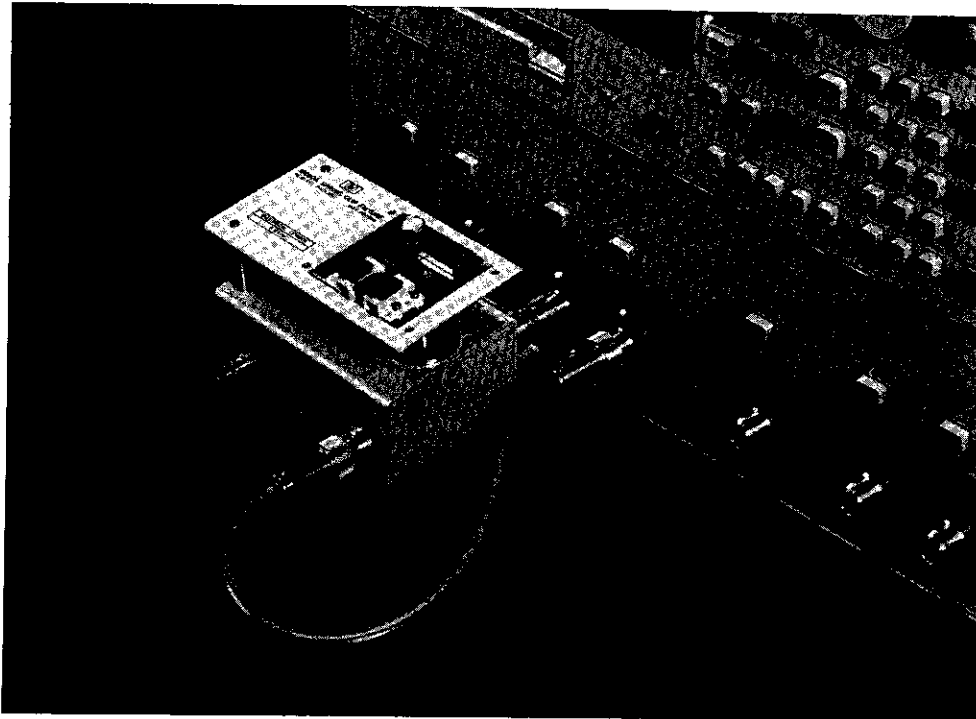

Figure 3-2. Impedance Test Adapter Connection
Figure 3-2 shows the impedance test adapter connected to the 4195A with a test fixture attached, but don't connect the test fixture yet.
16. Disconnect the 50 Ω termination and place a test fixture atop the Impedance Test Adapter as shown in Figure 3-2.